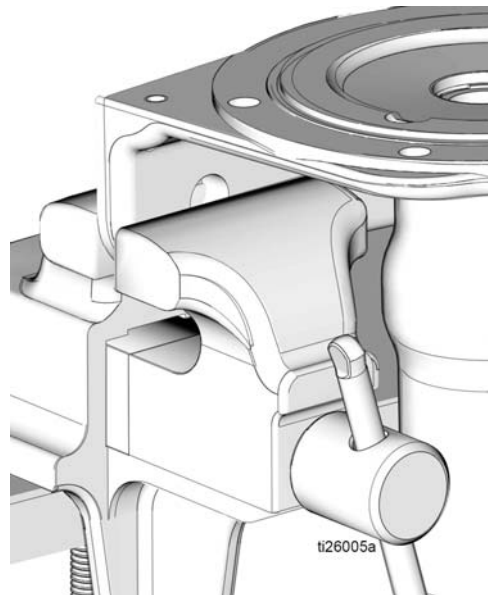

FIG. 23
- 17. Reposition the pump base (1) in the vise as shown in FIG. 23.